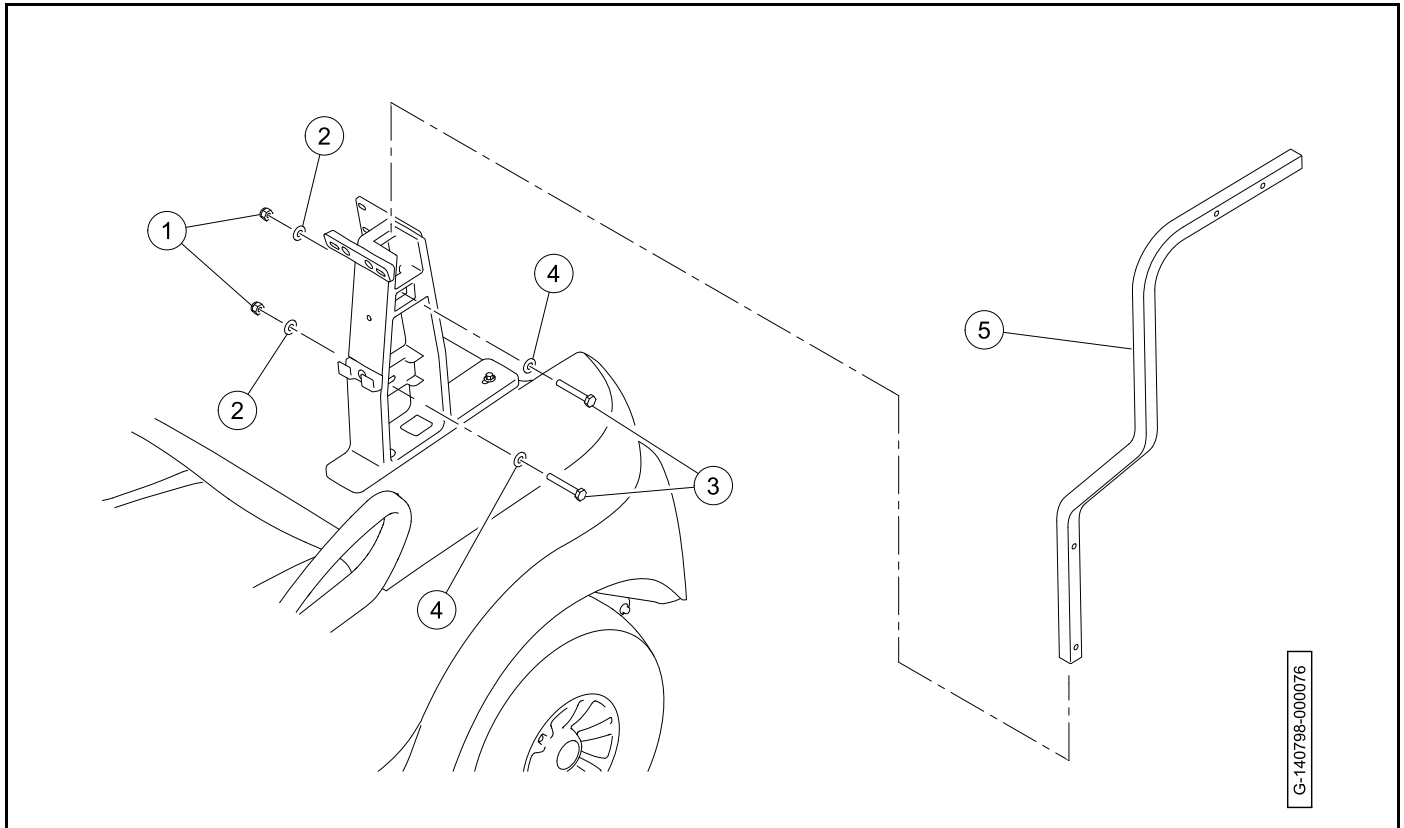

Figure 4-61
2. Remove the screw (1) (Figure 4-61, Page 4-63).
3. Remove the rear canopy support (2).
1. Install the rear canopy support (2) into the structural accessory module (SAM) (Figure 4-61, Page 4-63).
2. Install the screw (1). Tighten the screw to 88 lb·in (10 N·m).